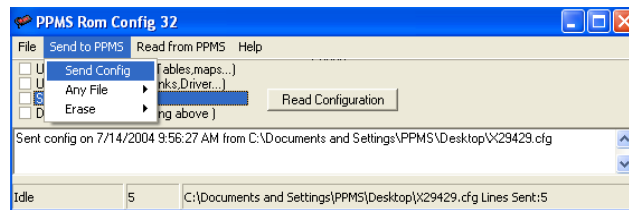

Figure 19. Send to PPMS dropdown menu
4. On the toolbar of the **PPMS Rom Config 32** dialog (Figure 19), select **Send to PPMS >> Send Config**.